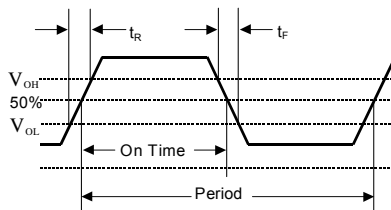
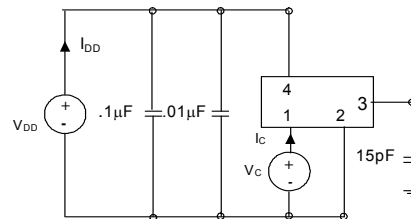

Figure 1. Output Waveform
Figure 2. Typical Output Test Conditions (25±5°C)
2. Figure 1 defines these parameters. Figure 2 illustrates the operating conditions under which these parameters are tested and specified.